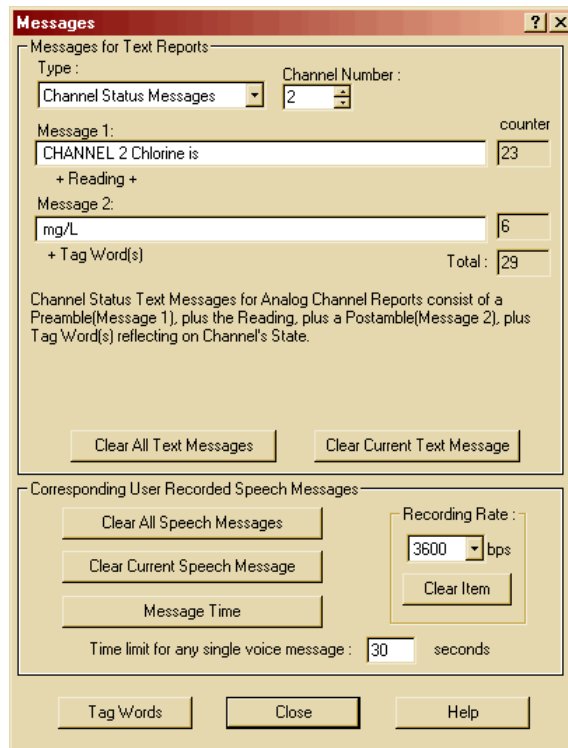

Figure 40: Messages, Channel 2
39. Change the **Channel Number** to **2** and edit it as shown in Figure 40.